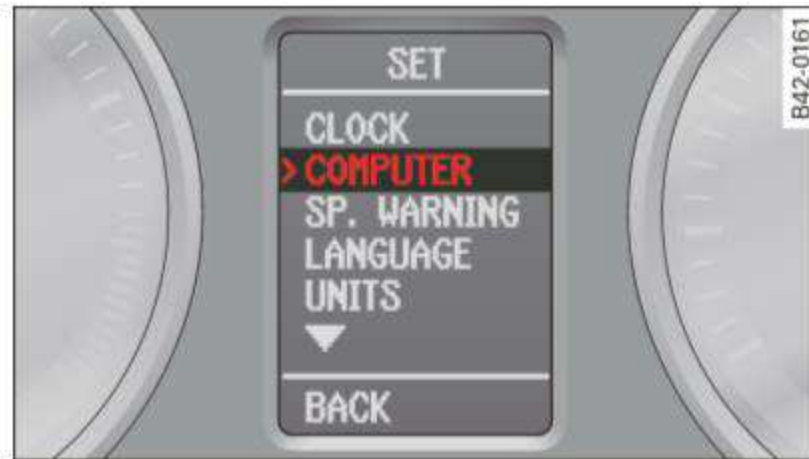

Fig. 16 Display: Menu Settings, computer selected (page 1)
- Press the rocker switch until the desired line is highlighted (cursor) ⇒ fig. 16.